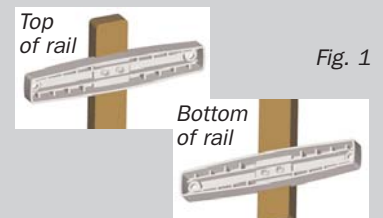

Fig. 1
3. Separate the two pieces of the Clamp Front Piece. Drill two 1/8" pilot holes. Attach one of the Clamp Front pieces (Part A) to the top of the vertical rail and one to the bottom of the vertical rail using the two supplied screws for each piece. (Fig. 1).